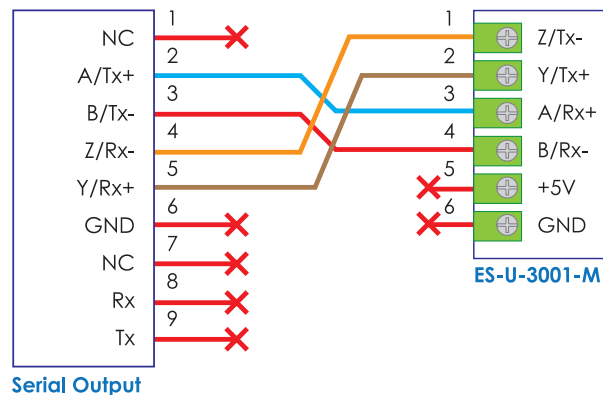

Figure 14. The connection pinout of RS485 Serial Output with ES-U-3001-M converter in RS485 mode
7. The connection wiring pinout of the control box RS485 serial output is illustrated in Figure 14.